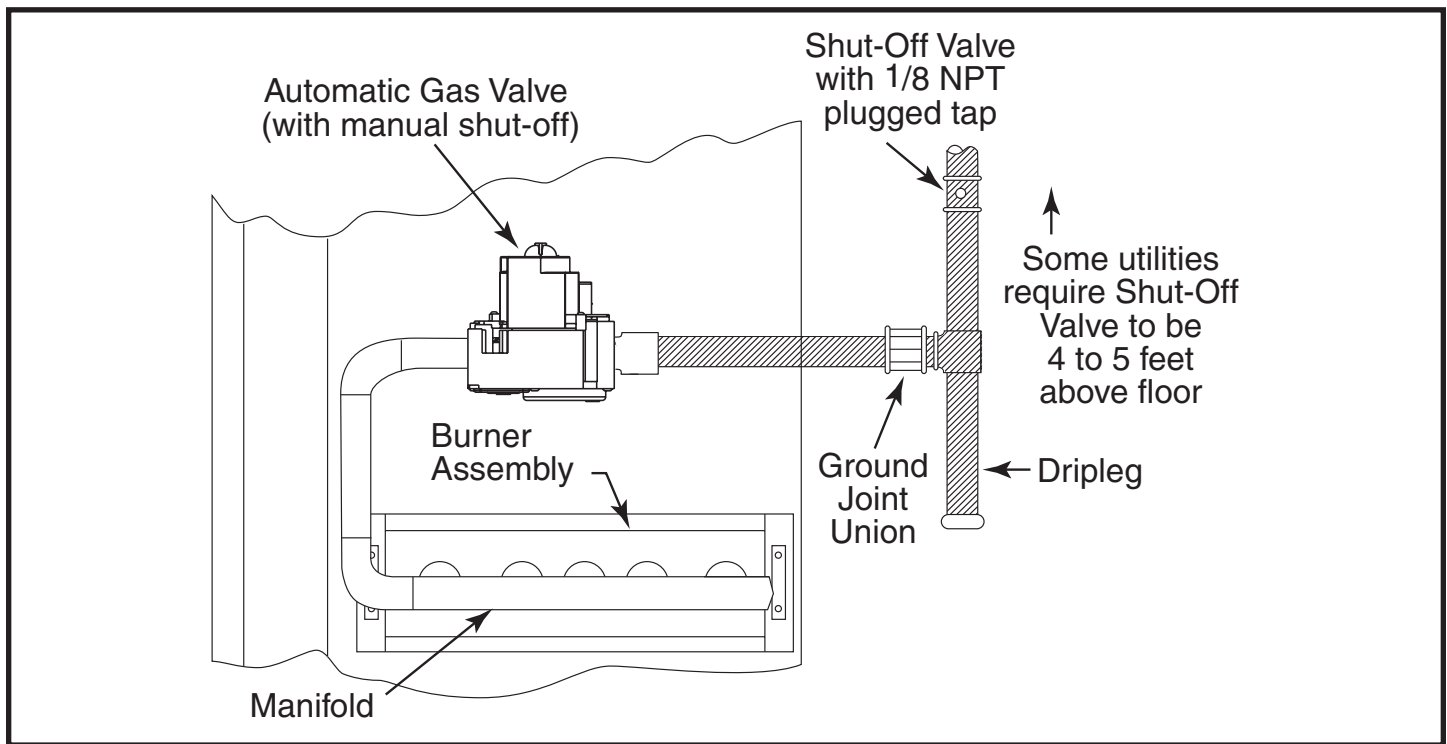

Figure 7. Typical Gas Hookup - Right Side Entry
- Some local codes require the installation of a manual main shut-off valve and ground joint union external to the furnace. The shut-off valve should be readily accessible for service and/or emergency use. Consult the local utility or gas supplier for additional requirements regarding placement of the manual main gas shut-off. See Figure 7 \(page 16\).
- A drip leg should be installed in the vertical pipe run to the unit (Figure 7).
This unit only has right side gas entry. When connecting the gas, provide clearance between the gas supply line and the entry hole in the unit's casing to avoid unwanted noise and/or damage to the unit. A typical gas service hookup is shown in Figure 7.